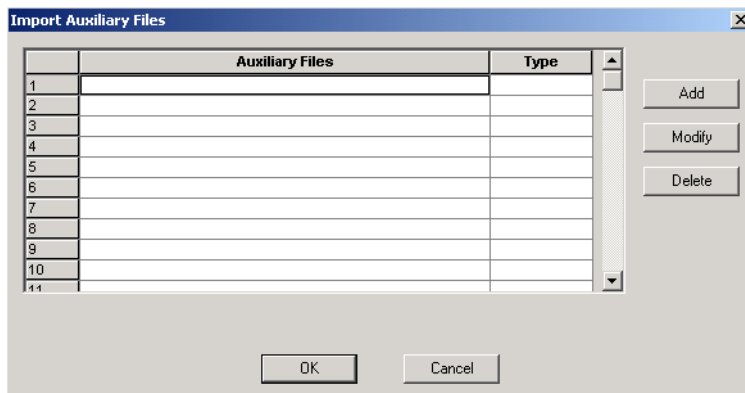

Figure 2-10. Importing a PDC File Dialog Box
1. **From the File menu, click *Import Auxiliary Files*.** The Import Auxiliary Files dialog appears, as shown in Figure 2-10.